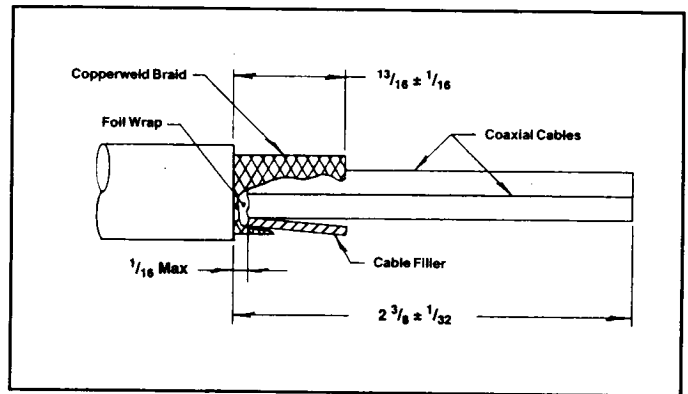

Figure 1
2. Trim the outer jacket, copperweld braid and cable fillers to dimensions shown, being careful not to nick braid. Comb out copperweld braid and fold back. It is important that after combing, the folding back must be performed by groups of four strands and one group should not cross the next as they are folded over the outer jacket. (Figure 1)